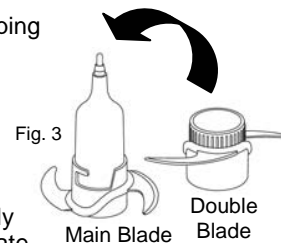
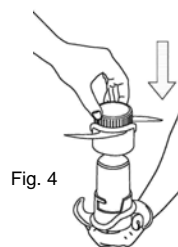

Fig. 3
Fig. 4
1. To use as a double blade, carefully slip the separate blade over the shaft of the main blade. (Fig. 3 & Fig. 4)